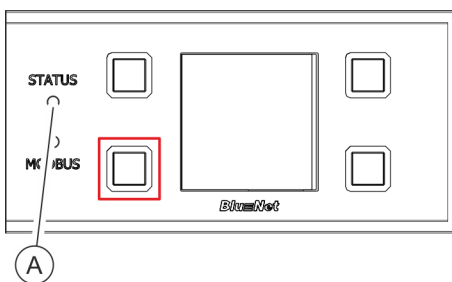

Fig. 82: Display with control buttons
2. ➔ Press the button next to the Modbus LED for two seconds and release it again (Fig. 82/red marking).
3. ➔ Wait until the status LED lights up white (Fig. 82/Ⓐ).